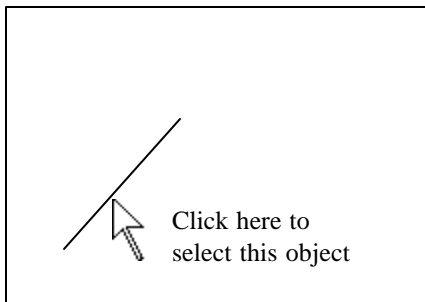

Figure 5: Selecting an object to move
3. Answer this question by clicking on the line. (See Figure 5) It should highlight. The same prompt will be repeated, giving you a chance to select more than one object. This time, since you are done selecting objects, respond by clicking the right button of the mouse